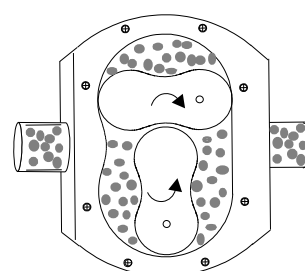

Figure 3
3. As the rotors continue to rotate the product is transferred around the rotor case to the discharge side. The rotors lobes go into mesh and the product is discharged from the pump (Figure 3).